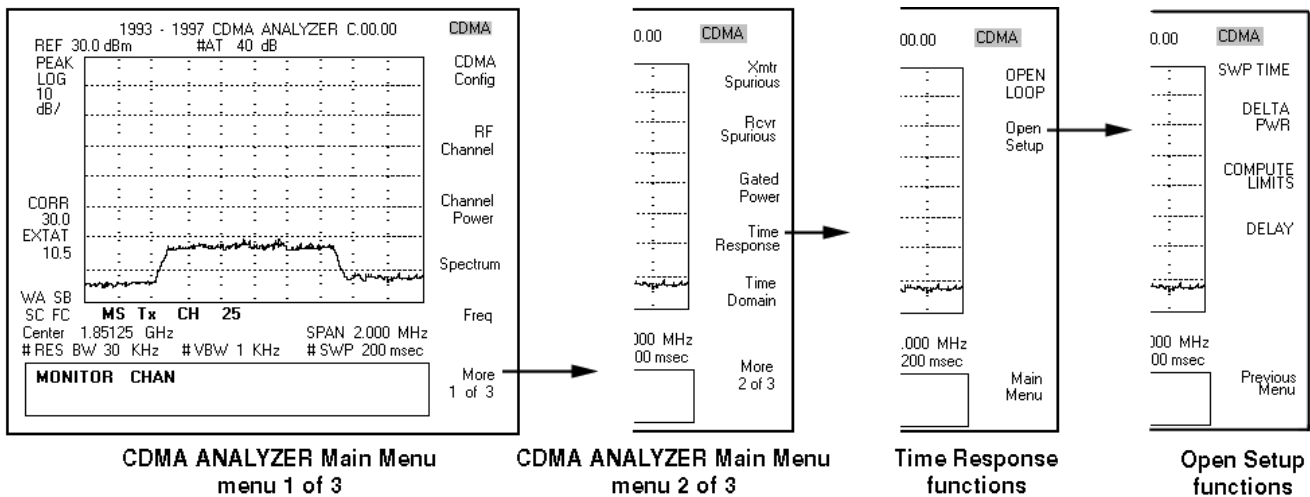
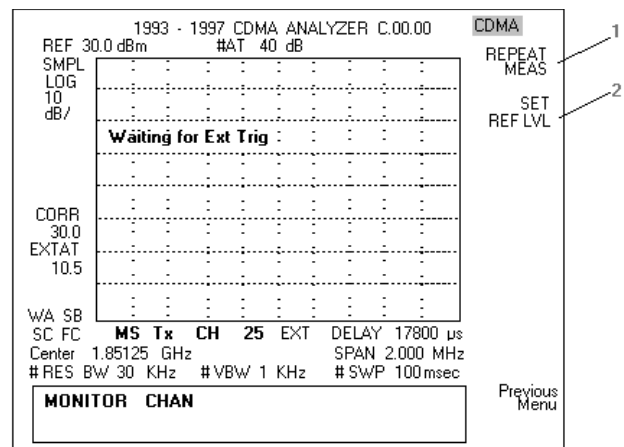

Figure 6. Time Response and Open Setup Functions
Figure 7. Spectrum Analyzer Waiting for External Trigger
6. Configure the spectrum analyzer and software as described in *Section 8—Configuring the Spectrum Analyzer and Software*. Enter the recorded delay time into the **DELAY** field of the **Time Response/Open Setup** function, see Figure 6.
11. On the spectrum analyzer, on the Time Response screen (see Figure 6), select the **OPEN LOOP** softkey. This will start the open loop time-response test. The message **Waiting for Ext Trig** appears on the screen (see Figure 7) after a short delay
12. Press the **SET REF LVL** softkey (see Figure 7, item 2). Enter 15 dBm. Press the ENTER key. This adjusts the spectrum analyzer's input attenuator and reference level to allow viewing of the full range of power transitions.